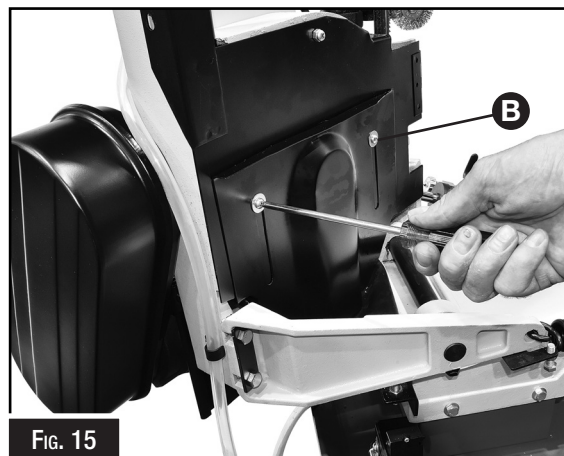

FIG. 15
10. Close blade cover door (Fig. 15) and secure with lock knobs.